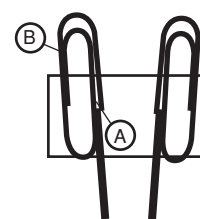

Figure 2.
- c. Place a small paper clip on each rod, so that the rod fits snugly between the paper clip outer and inner loops (A) as shown in Figure 2.